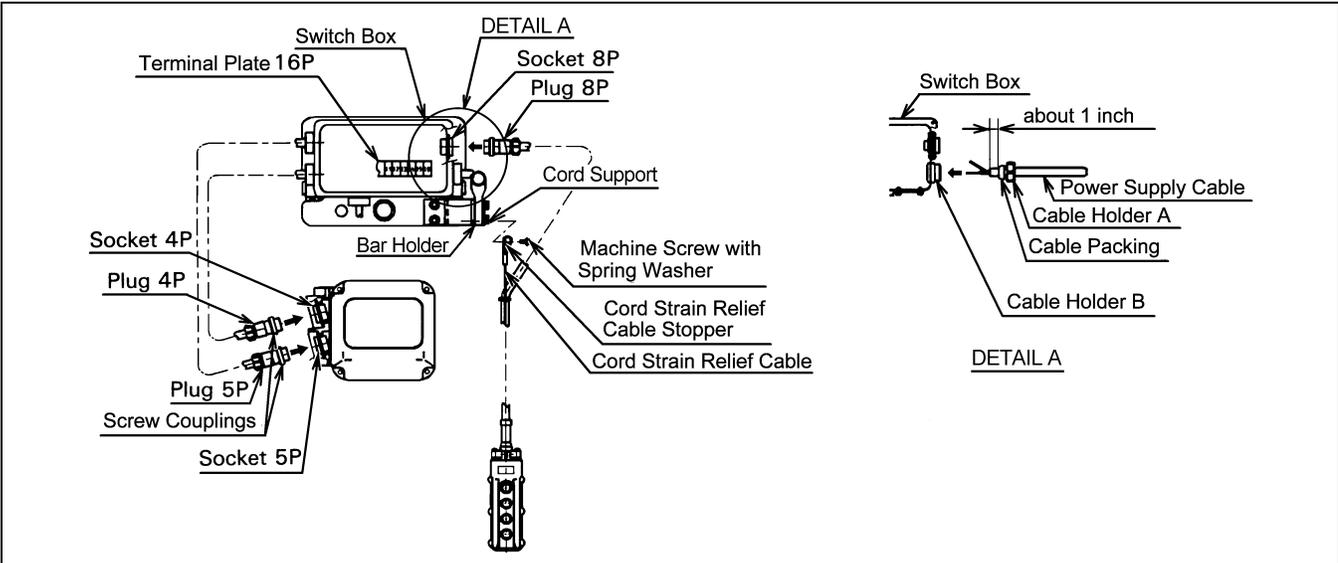

Figure 3-12 Pendant and Power Supply Cable Connection – Product Code ERM001H to ERM100L
- 1) Refer to Figure 3-12 or 3-13 depending on the product code of the trolley/hoist.